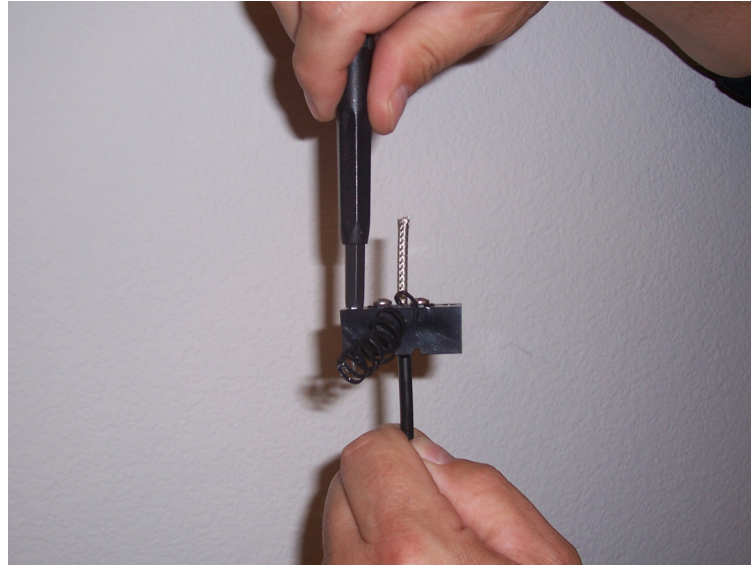

Figure 5.1 – Removing the Cable Jacket
While holding the cable insert the end of the MicroPoint™ Cable into the larger center hole on the rear of the Strain Relief block (the opposite side from the blade and the screws). Spin the Top in a clockwise direction as shown in Figure 5.1. About 25 turns are required to remove about three (3) inches (76.2mm) of cable jacket.